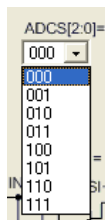

Figure 41
- (1) Click the network by mouse, INH can select the specified network.
- (2) Click the network switch by mouse, INH can select the specified network.
- (3) Click the mouse, a menu as Figure 41 will appear and users can select the switch network.